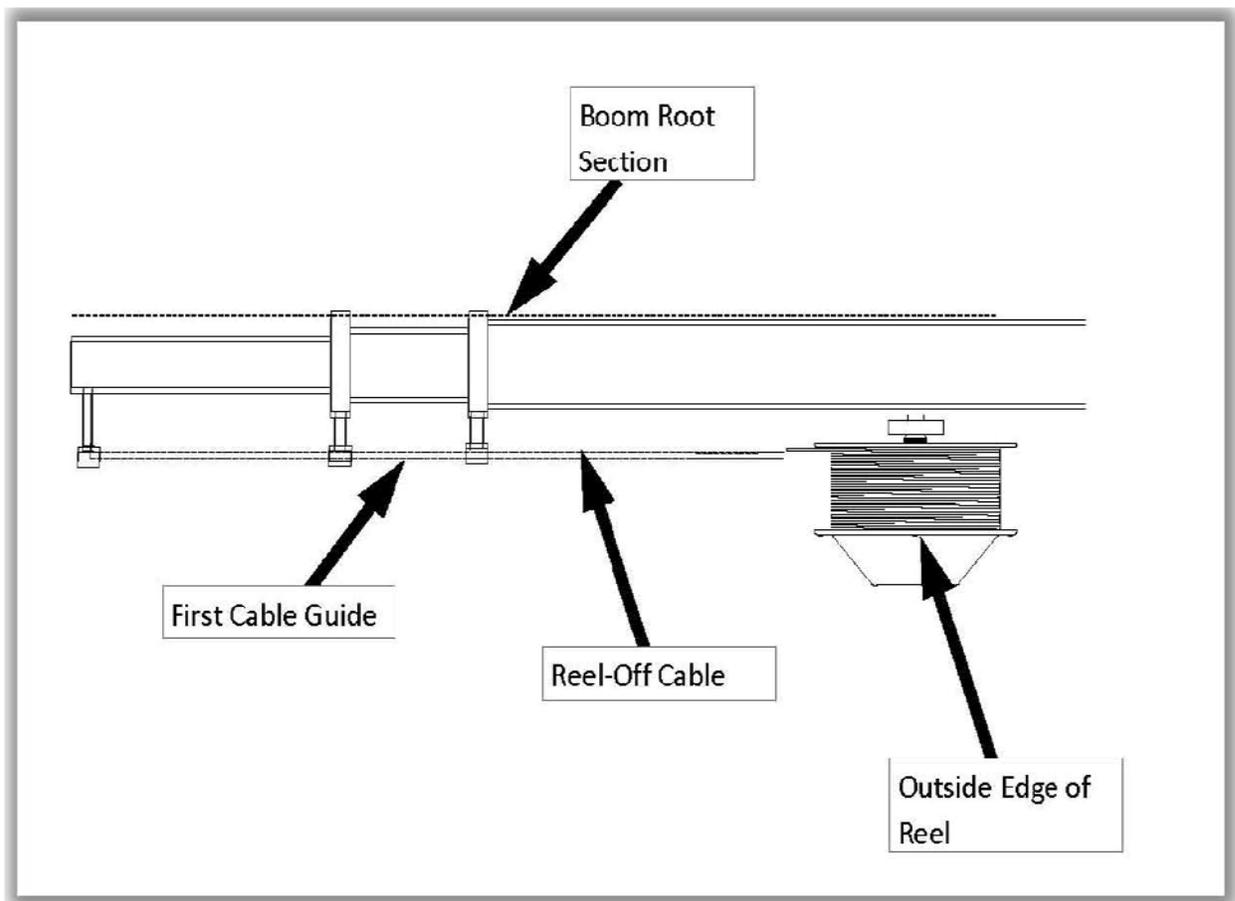

FIGURE 3.8.1 - EXTENSION REEL VIEWED FROM ABOVE
*NOTE: If any stacking or build up of the cable occurs, ensure the first cable guide at the top of the boom root section is correctly aligned with the outside edge of the extension reel. Clean the reel-off cable, and lubricate it with a silicone spray, as shown in Figure 3.8.1 below.*